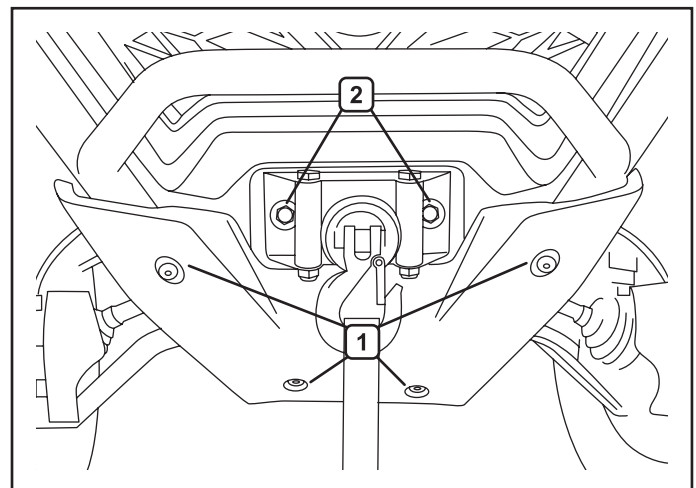

Figure 5.
8. Reinstall the front lower panel and hardware (1), as shown in figure 5.
9. Install your fairlead with bolts (2) removed in step 1. See figure 5.